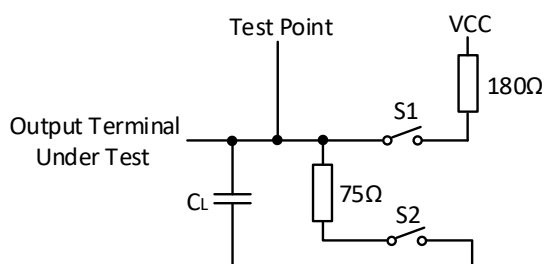

Figure 1. Switch Characteristic Test Circuit
3. Test circuit is shown in figure 1. C_L includes parasitic capacitance of prod and socket. Input signal is from waveform generator, and it meets the following demands : $PRR \leq 1\text{MHz}$, $Z_O \approx 50\Omega$, $t_r \leq 15\text{ns}$, $t_f \leq 6\text{ns}$; Each enable terminal is tested alone.